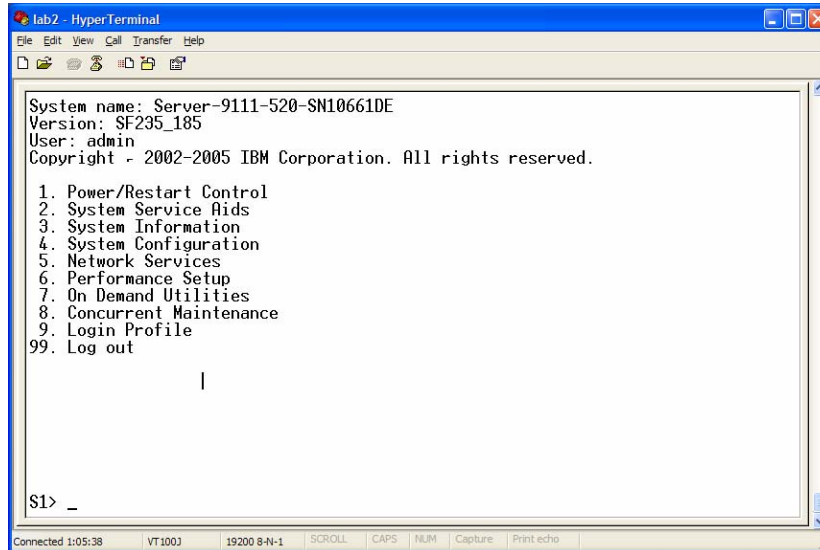

Figure 25. Selecting System Configuration functions
19. You then need to set the time of day by selecting option **4 (System Configuration)** on the screen shown in Figure 25.